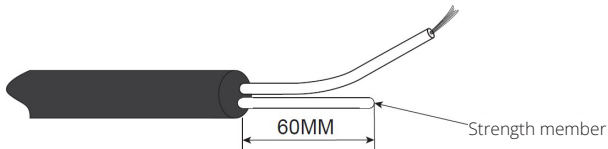

Figure 1-16: Strength member
- 3 Cut the strength member of the cable from the stripped cable sheath 2.4 in. (60 mm) to fix the cable (Figure 1-16).